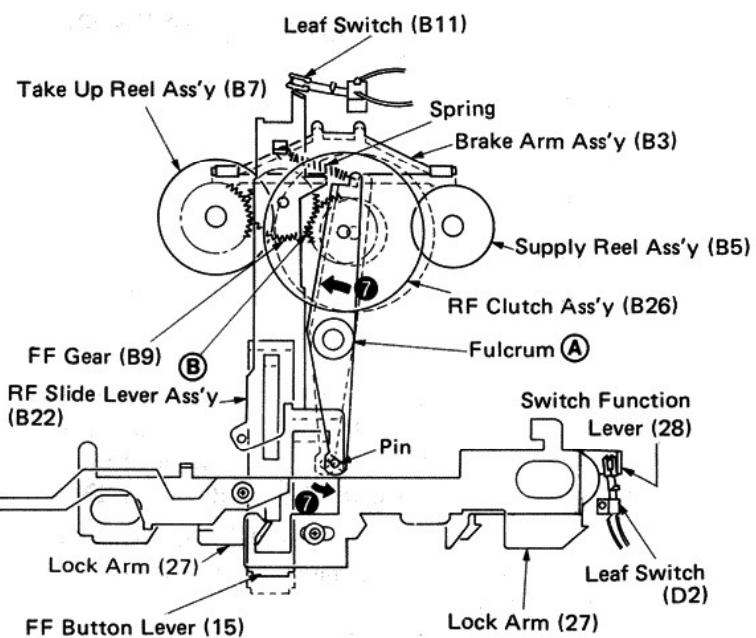

Fig. 20
- Since the gear of the take-up reel assembly (B7) is coupled with the FF gear (B9) from the beginning, the take-up reel (B7) begins to rotate when it meshes with the gear of the RF clutch assembly (B26). In this step the mechanism assumes an FF state. (Fig. 20)
- When the FF button is pushed, the switch function lever (28) and the FF button lever (15) are locked by the lock arm (27).
- The leaf switch (D2) (Motor ON-OFF Switch) is turned on by the switch function lever (28) and the motor (C8) begins to run. Simultaneously the RF clutch assembly (B26) begins to rotate.
- As the FF button lever (15) is pushed forward, the pin of the RF clutch assembly (B26) is released from the grip of the FF lever and the RF clutch is rotated around the fulcrum A in direction 7 by the effect of the spring force. The RF clutch gear is then meshed with the FF gear (B9). Simultaneously the brake arm assembly (B3) uncouples from the take-up reel (D7) and the supply reel (B5). (Fig. 20)